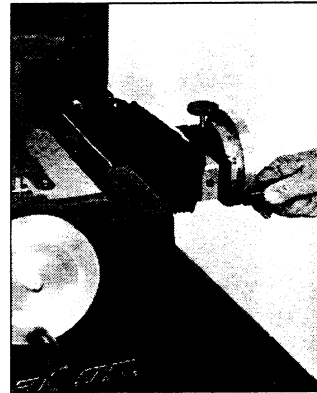
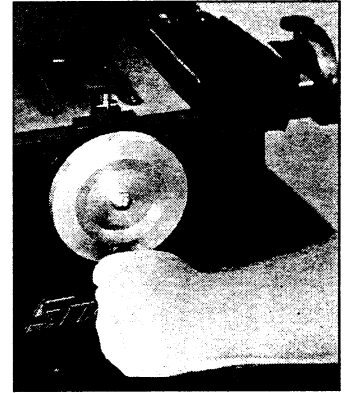

Figure 30
Figure 31
6. Turn the traverse feed handwheel (**Figure 30**) until the deepest worn groove of the drum is aligned with the point of the tool bit. Start the MOTOR, advance the tool bit into the bottom of the groove by turning the cross feed handwheel (**Figure 31**) counterclockwise. Note handwheel reading then back off (clockwise) 1/2 turn. Move cutter to inside edge of surface to be machined using the traverse feed handwheel.